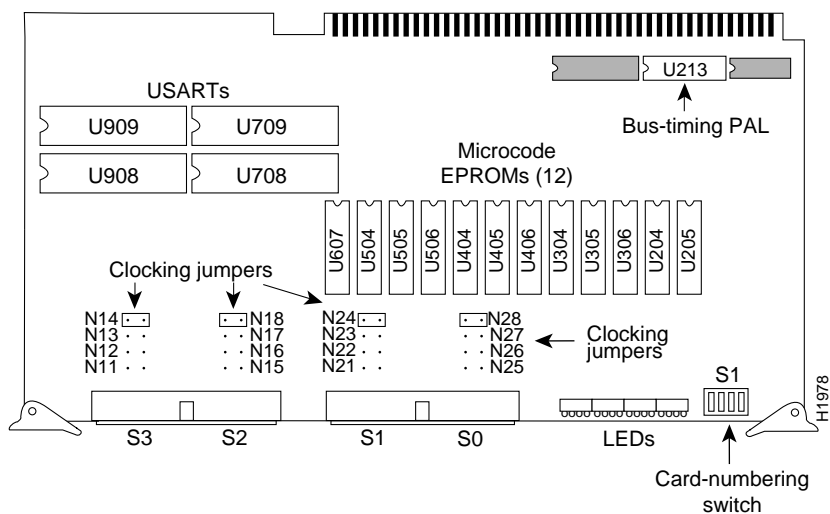

Figure 5-30 CSC-SCI Serial Communications Interface Card—Component-Side View
- CSC-SCI serial communications interface card, Figure 5-30